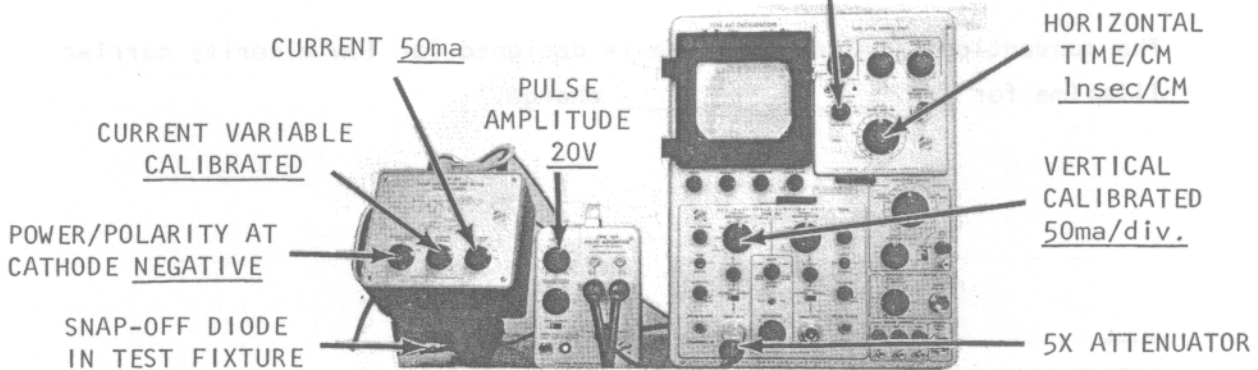

FIGURE 40A
40.4 Figure 40A indicates that the snap-off diode has very much more, less stored charge per unit of forward current than the conventional switching diode.
40.5 The conventional diode in figure 40A has a low stored charge, but the fall time of the reverse current of the snap-off diode is much faster, slower than the conventional diode.
TEST SET-UP: SAME AS FIGURE 40A EXCEPT LOWER PHOTO HAS TIME EXPANDER SET AT X5.
TEST SET-UP: SAME AS FIGURE 40A WITH THE EXCEPTION OF THE TYPE 291 CURRENT INCREASED TO 50ma FOR THE LOWER PHOTO